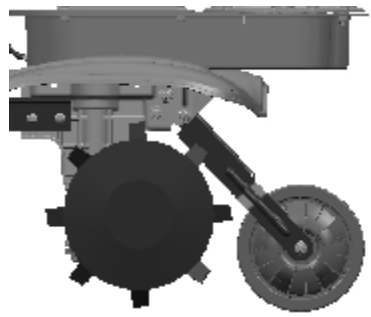

Figure 9
- 1) Adjust front wheel of tiller to the state shown in Fig. 9 when it is going to drive on the road.